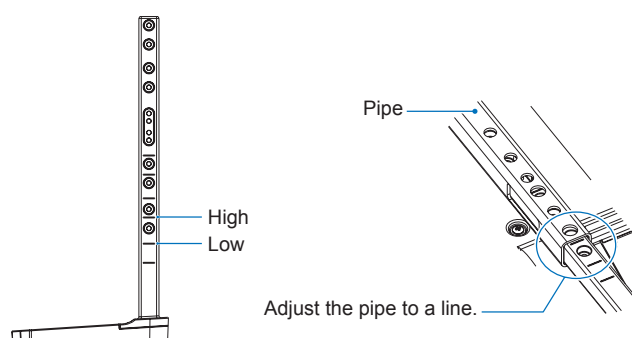

Figure 1
1. The lines on the stand pole are indicators of the height adjustment (**Figure 1**). Please adjust the pipe to the lines.